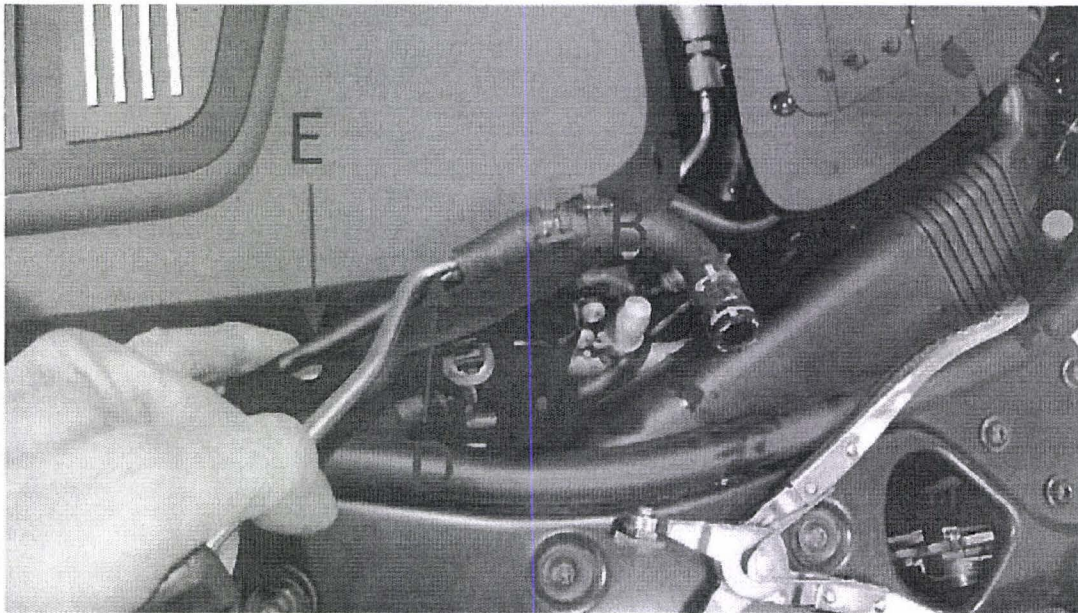

Figure 6
8. **Caution:** Care must be taken in the event that hose B requires replacement. Nylon pipe E shown in figure 6 will deform easily if force is applied therefore to remove hose B from this pipe a suitable hose pick (D) should be used